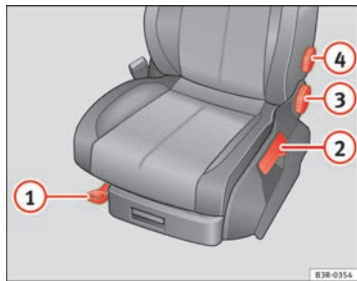

Fig. 105 Adjuster controls on driver's seat
- Lift the lever ① ⇒ fig. 105 and move the seat to the desired position.
- Then release the lever ① and move the seat further until the catch engages.
- Pull the lever ② ⇒ fig. 105 up repeatedly until the seat is in the desired position.
- Turn the adjuster wheel ③ ⇒ page 133, fig. 105 to set the angle of the backrest as required.
- Do not exert any pressure on the backrest and turn adjuster wheel ④ ⇒ page 133, fig. 105 to adjust lumbar support.